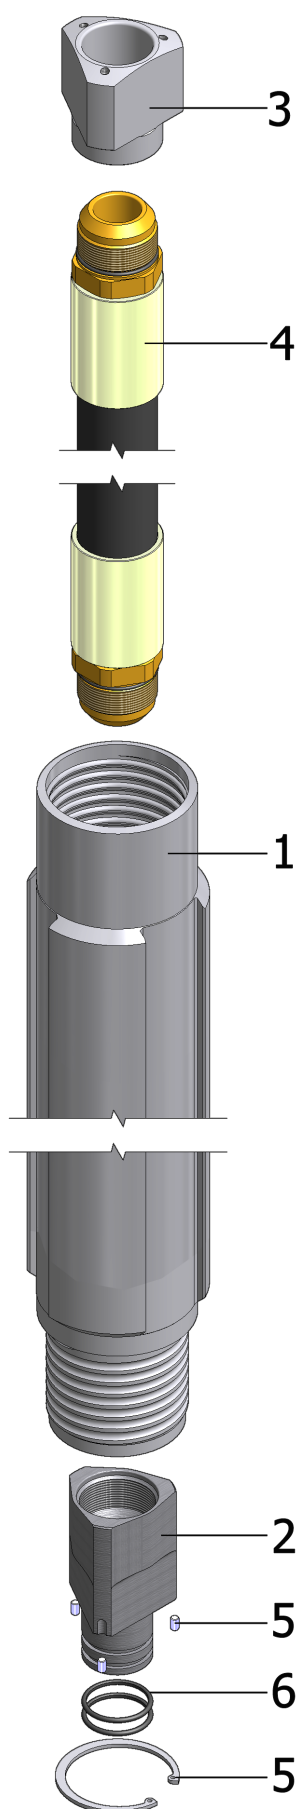

FIG. 3.12
**De132 ROD FOR HOLLOW CLAMP; J-1C212132 (L=1000); (REF. FIG. 3.12)**